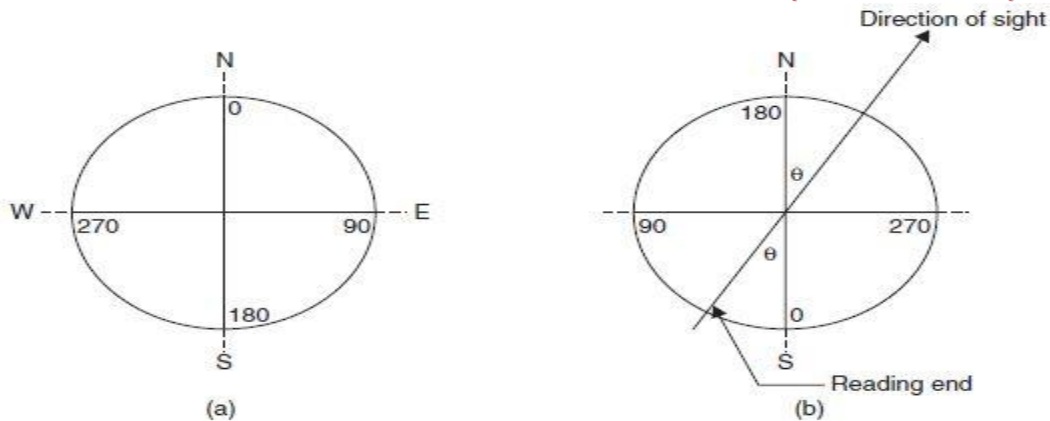

Fig. 13.2
An aluminium graduated disk (4) is fixed to the top of the needle. The graduations are from zero to 360° in clockwise direction when read from top. The direction of north is treated as zero degrees, east as 90°, south as 180° and west as 270°. However, while taking the readings observations are at the other end of line of sight. Hence, the readings are shifted by 180° and graduations are marked as shown in Fig. 13.2. The graduations are marked inverted because they are read through a prism.